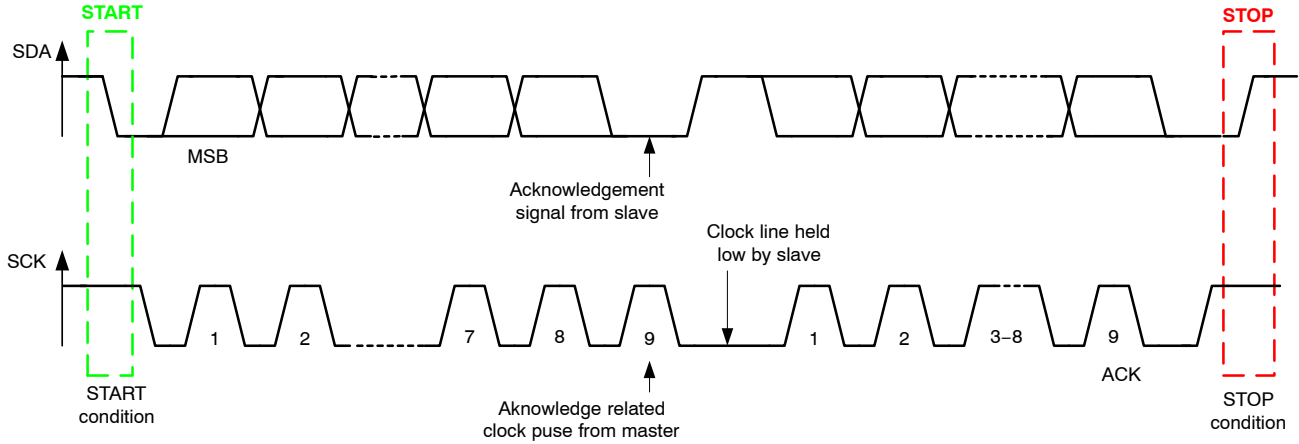

Figure 25. Data Transfer on the I²C-bus
The bus stays busy if a repeated START (S_r) is generated instead of a STOP condition. In this respect, the START (S) and repeated START (S_r) conditions are functionally identical (See Figure 25). The symbol S will be used to represent START and repeated START, unless otherwise noted.
with the most significant bit (MSB) first (See Figure 25). If a slave can't receive or transmit another complete byte of data, it can hold the clock line SCK LOW to force the master into a wait state. Data transfer then continues when the slave is ready for another byte of data and releases clock line SCK.